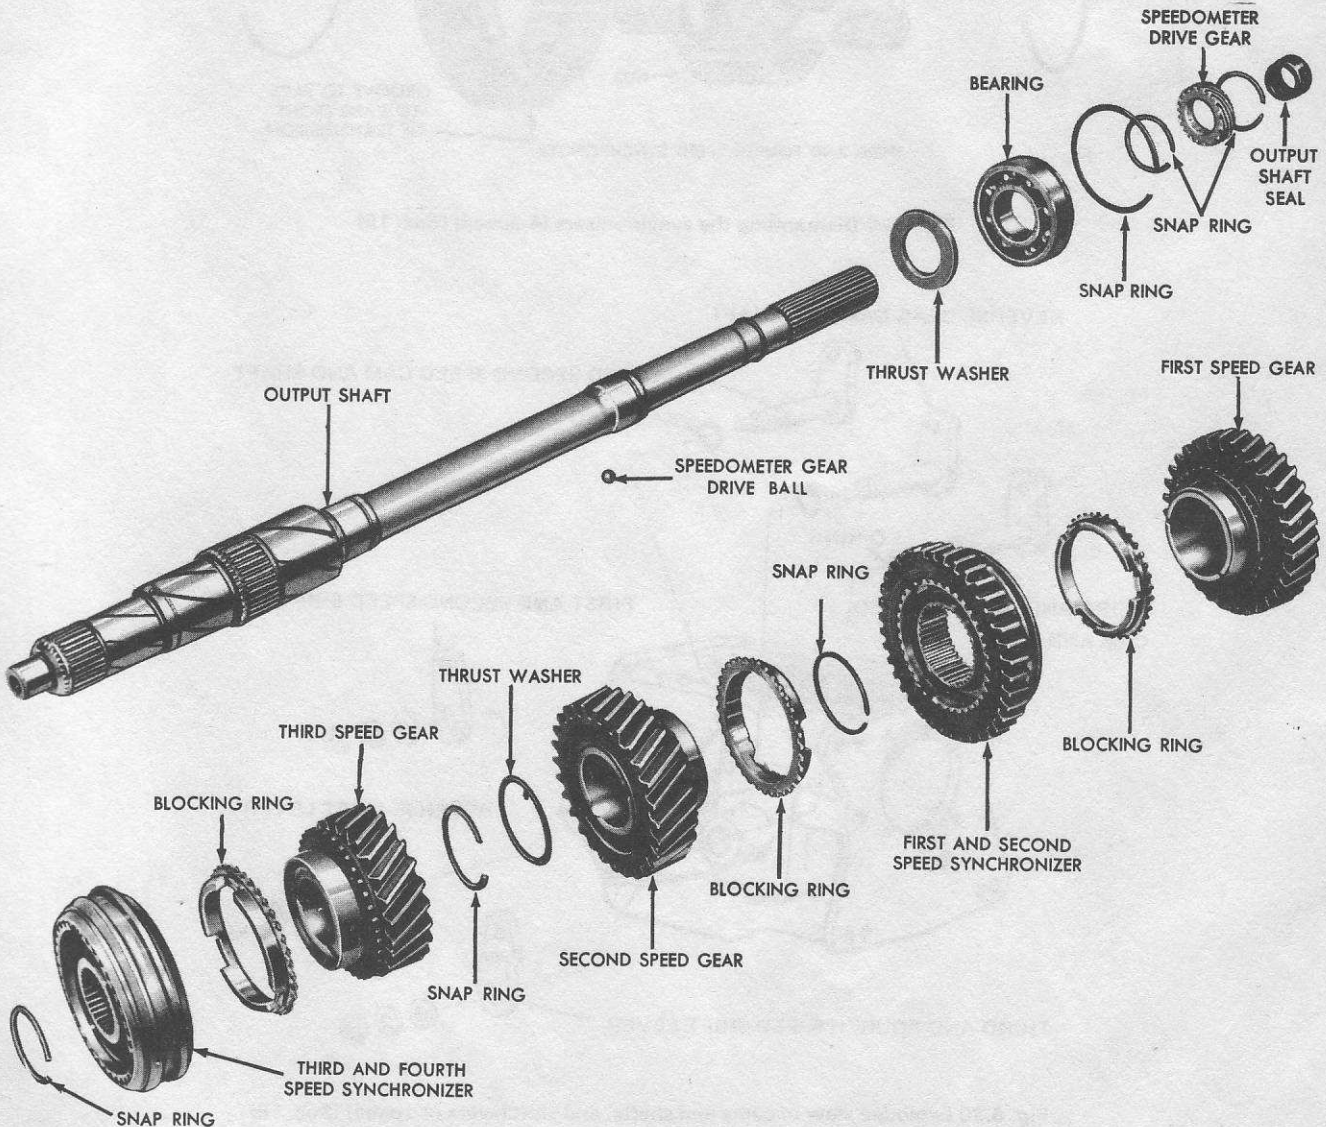

Fig. 6.28 Exploded view of output shaft assembly (4-speed) (Sec. 15)
- 2 Refer to Fig. 6.28. Remove the snap-ring from the front of the shaft and then slide the 3rd/4th gear synchro hub, blocking ring and 3rd gear off the shaft.